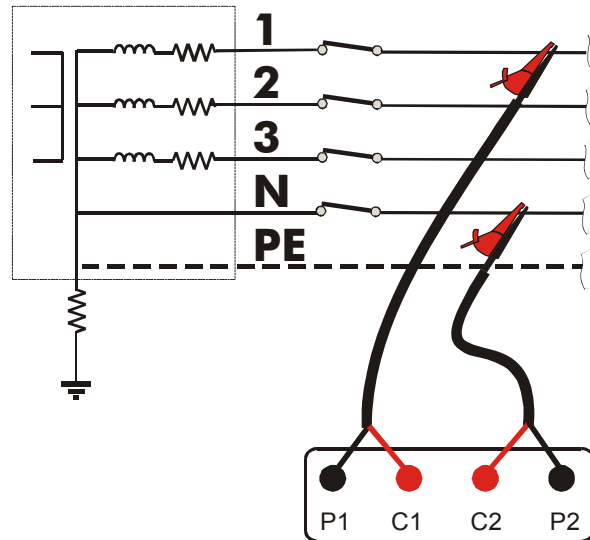

Fig. 4: Instrument connection for phase to neutral impedance measurement
2. Connect the alligator clip to the Electrical pant according to Fig. 4.
3. Insert the 4 safety connectors into corresponding instrument's inputs **according to sequence P1, P2, C2, C1** (see Fig. 4).